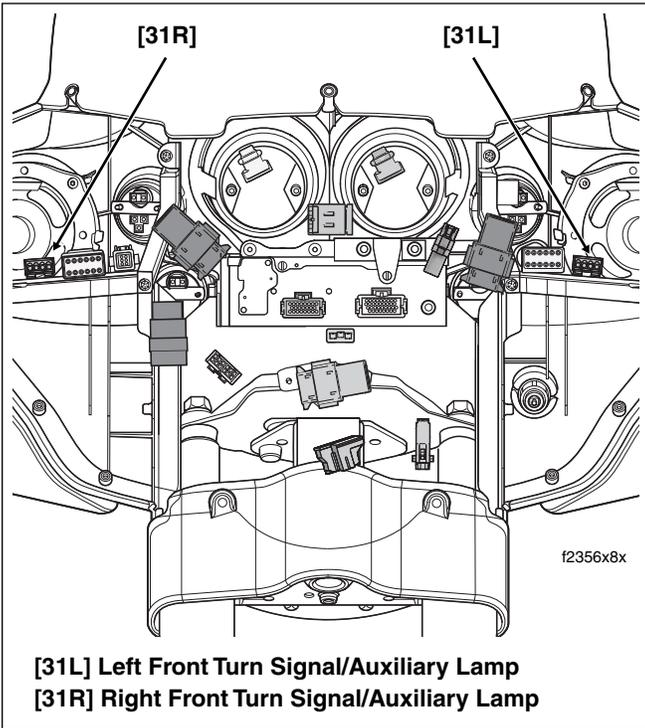

Figure 8-35. Inner Fairing (FLHT/C/U)
- Proceed as follows: **FLHT/C/U**: Remove outer fairing. See Section 2.30 UPPER FAIRING/WINDSHIELD \(FLHX, FLHT/C/U\), OUTER FAIRING/WINDSHIELD, REMOVAL. Locate the left or right front turn signal/auxiliary lamp connector [31L/R], 4-place Multilock, on T-stud at top of left or right fairing support brace (outboard side). See Figure 8-35.